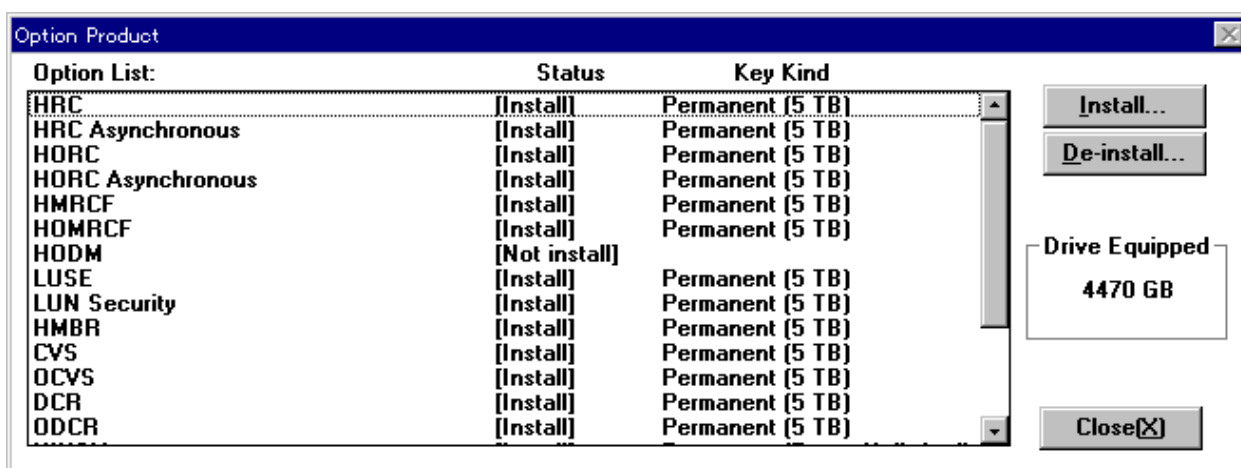

Figure 3.4 Enabling the HIHSM Option on Each Subsystem
- a) On the Connection Control panel, select the desired 9900 subsystem, and then select **Install...** to open the DKCMAIN Option Product panel (see Figure 3.4).